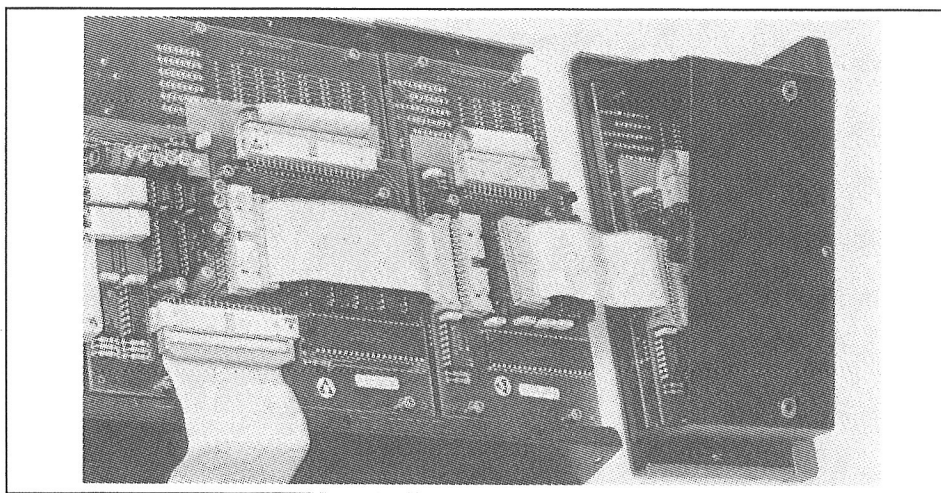

Fig. 4
- Add additional command module. Insert connector (fig. 4). Fasten command module with the A, B, and C screws.